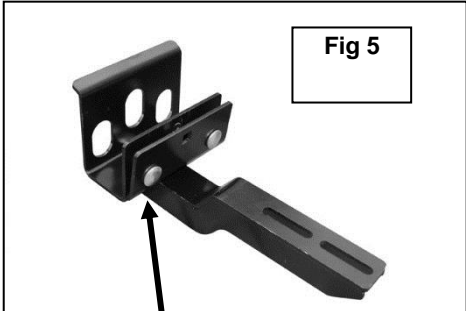

Fig 5
- Bolt the Clamp Plate to the outside of the center Bracket with (2) 8mm Carriage Bolts (insert through Plate and the Bracket), (2) 8mm x 22mm Large Flat Washers and (2) 8mm Nylon Lock Nuts, **(Figure 5)**. Do not tighten hardware at this time.